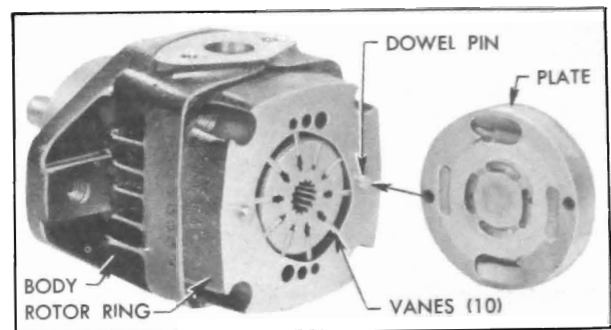

Figure 8-41—Pressure Plate, Ring, Rotor and Vanes
5. Mark position of pressure plate and remove plate from dowel pins extending through the rotor ring, then mark and remove rotor ring, O-ring seal, rotor, vanes and dowels. See Figure 8-41.